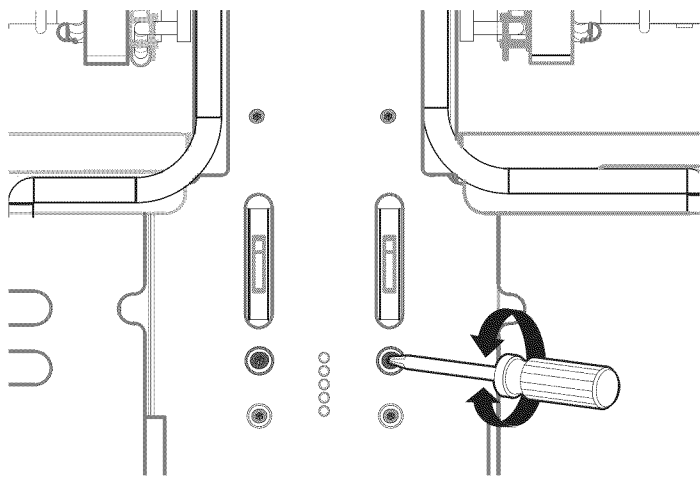

Figure 27: Hinge Receiver Adjustment Screw
- For 48" models with large and small ovens, if door or handle appears slightly tilted, you may adjust the hinge receiver by rotating the large Torx-head screw located directly below the hinge receiver with a T-20 Torx driver. Rotate each screw respective to its side and direction the door needs to be adjusted (*Figure 27*).